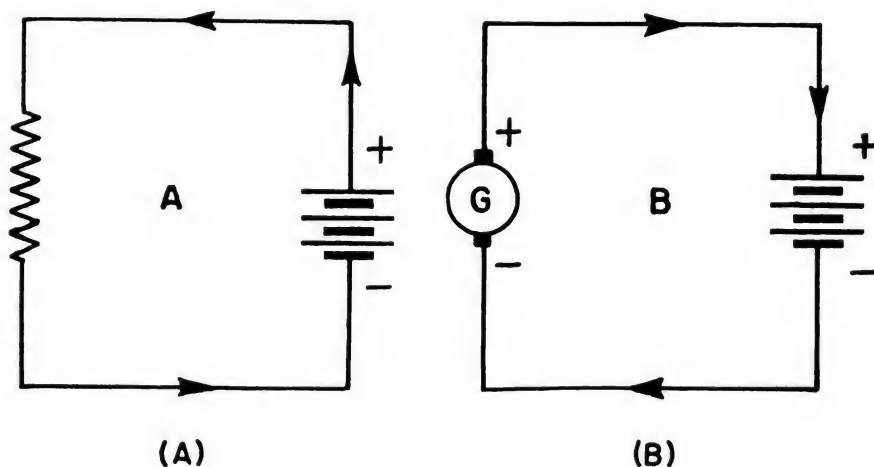

Figure 80.—Battery current—charge and discharge.
In (A) of figure 80, note that when a battery discharges, current flows from the positive ter-
minal and into the negative terminal. To charge, you must send a direct current through the battery in the opposite direction. You charge by connecting the battery to a CHARGER that provides voltage higher than that of the battery. As you see in (B) of figure 80, you connect the positive terminal of the generator to the positive terminal of the battery, and complete the circuit by connecting the negative terminals. If the genera-